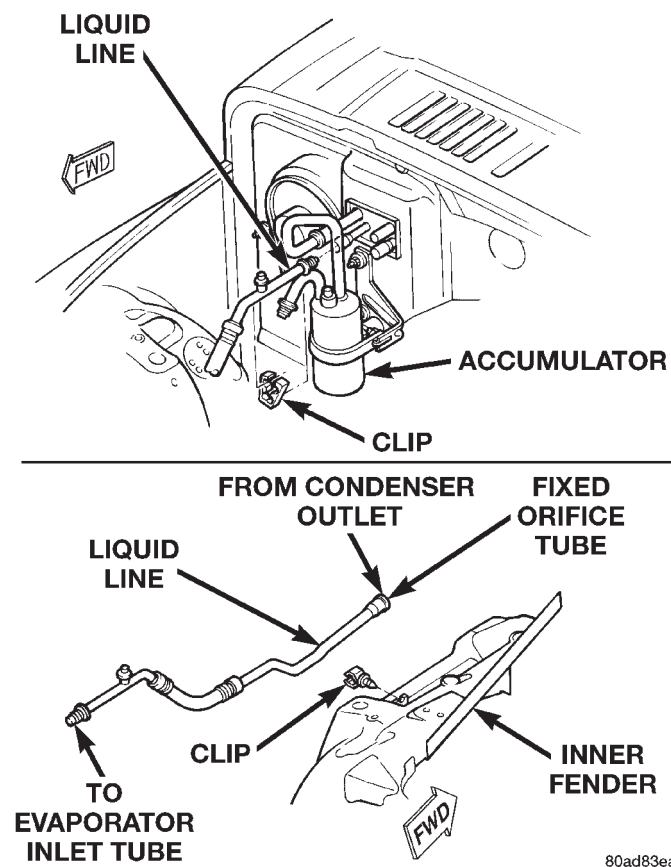

Fig. 29 Liquid Line Remove/Install
- (1) Disconnect and isolate the battery negative cable.
- (2) Recover the refrigerant from the refrigerant system. See Refrigerant Recovery in this group for the procedures.
- (3) Remove the plastic clip that secures the liquid line to the accumulator outlet tube near the dash panel (Fig. 29).